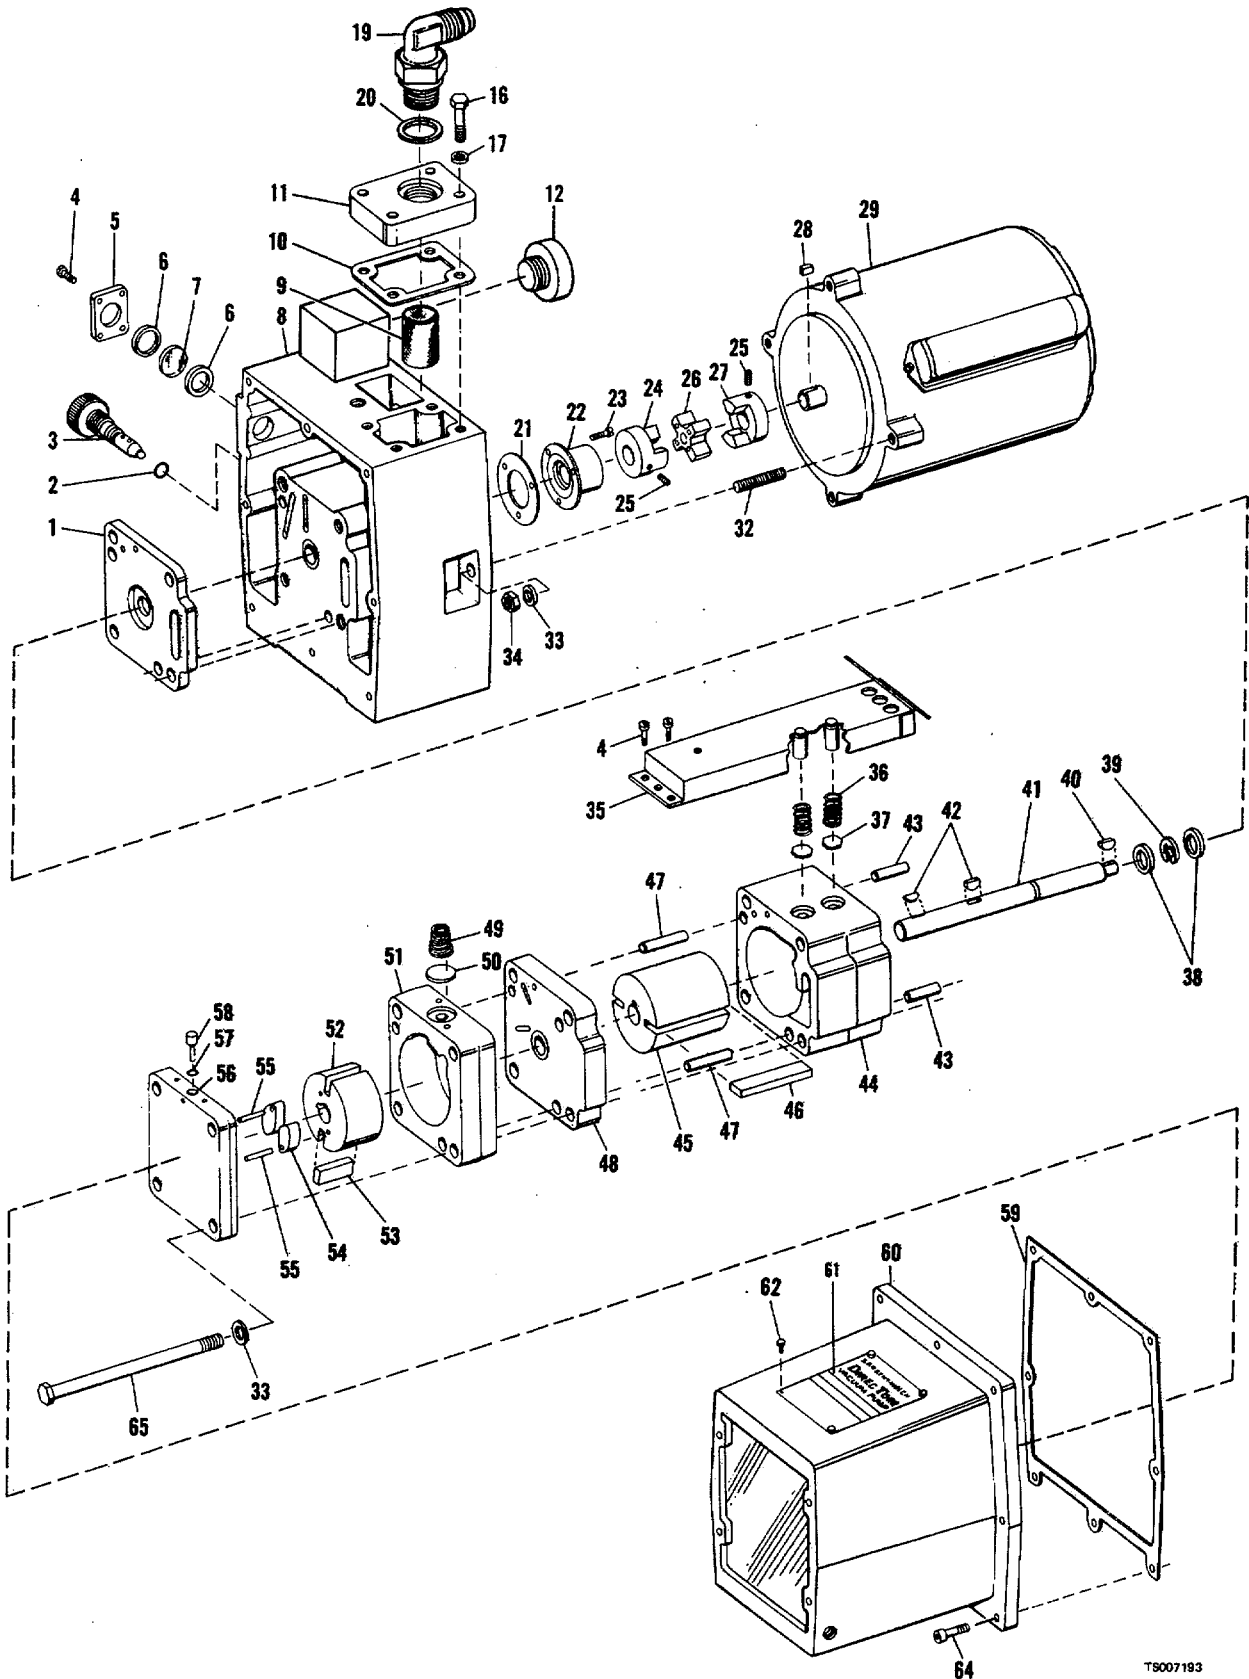

Figure 6-1. Vacuum pump
Replace shaft seal (22, fig. 6-1) as follows:
Key to figure 6-1:
- b. Loosen setscrew (25) and remove coupling body (24).
- c. Remove screws (23) and pry shaft seal (22) with gasket (21) from mounting plate (8).
- d. Wipe shaft (41) area clean of sediment and carefully hone any damaged areas of shaft with a fine emery stone. Be sure to remove any sharp edges which might cut the rubber elements of the shaft seal.
- e. Place new seal gasket (21) to align with screw holes. Lubricate new shaft seal (22) with film of oil (12, fig. 5-2) and carefully slide new shaft seal over shaft and position against seal gasket. Align screw holes, center shaft seal on shaft and tighten screws (23, fig. 6-1) uniformly.
- f. Reinstall coupling body (24) and tighten setscrew (25).
- g. Reinstall motor (29) with washers (33) and nuts (34).
- 6-3. Replace glass disk (7) and seal rings (6) as follows:
- a. Remove screws (4), cover (5), seal rings (6), and disk (7).
- b. Insert new seal rings (6) in counterbore seat in mounting plate (8).
- c. Place disk (17) over inner seal and position new outer seal rings (6) over disk 17) and into seat.
- d. Place cover (5) in position and secure in place with screws (4).
- 6-4. Replace oil case gasket (59) as follows:
- a. Remove screws (64), gasket (59), and oil case (60) from mounting plate (8).